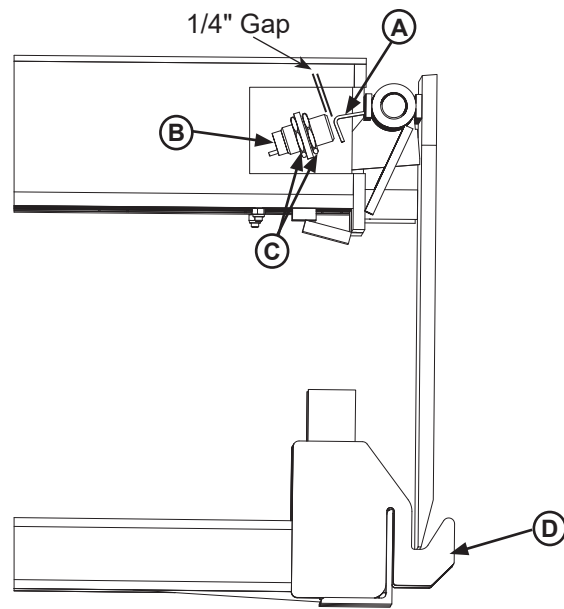

Figure 31
**Stored** - Lip plate is resting in the lip keepers (D). In the stored position, target (A) is directly in front of the sensor (B). See **Figure 31**.
2. When the sensor and target are positioned correctly, the target should be parallel to the face of the sensor with a gap of 1/4", when the lip is in the stored position. See **Figure 31**.
3. To adjust the sensor, loosen the nuts (C) around the sensor body to move the sensor and achieve the correct gap.